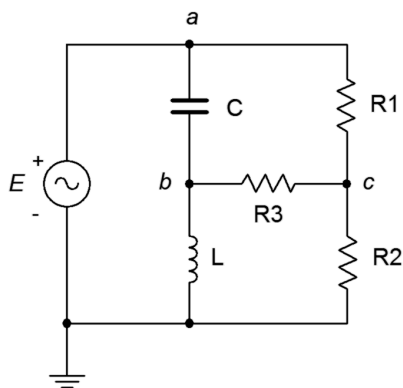

Figure 5.35
61. Find voltage v_{bc} in the circuit of Figure 5.35 through the use of one or more delta-Y conversions.